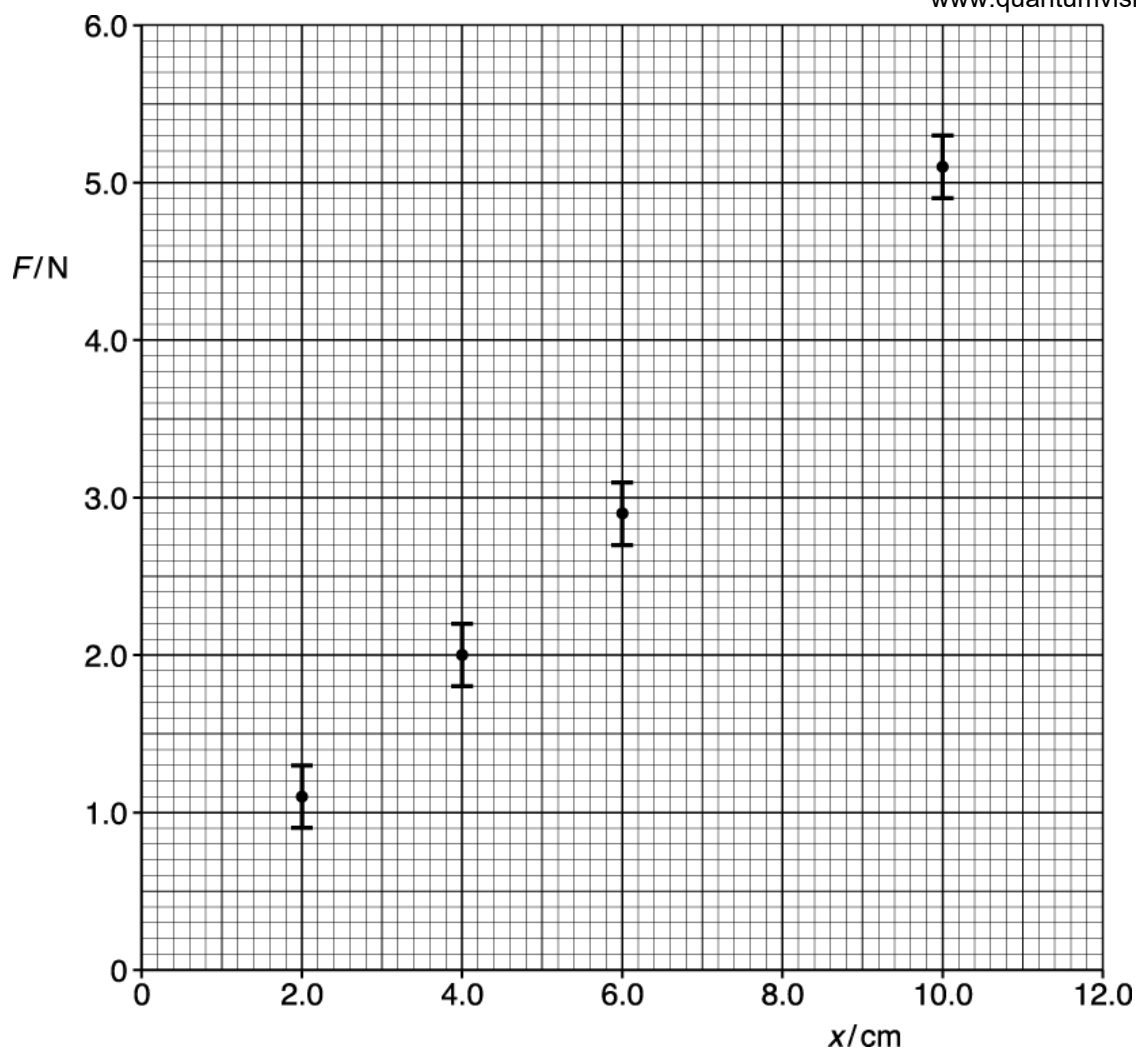

Fig. 17.2
Fig. 17.2 shows four data points from the table plotted on a F against x graph.
- (i) Plot the missing data point and the error bar on Fig. 17.2.
- (iii) Draw the best fit and the worst fit straight lines on Fig. 17.2.